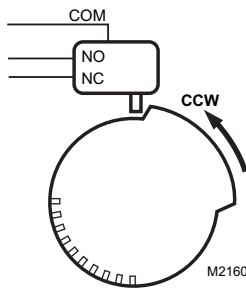
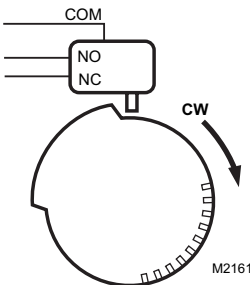

Fig. 11. Switching configuration for CCW rotation (top view).
Fig. 12. Switching configuration for CW rotation (top view).
1. Determine desired switching action (i.e., if switch energizing is to occur during CW or CCW rotation). With switch cam as shown in Fig. 11, the normally closed contact opens in CCW rotation. The normally open contact closes. Conversely, with switch cam as shown in Fig. 12, the normally closed contact opens during CW rotation and the normally open contact closes.